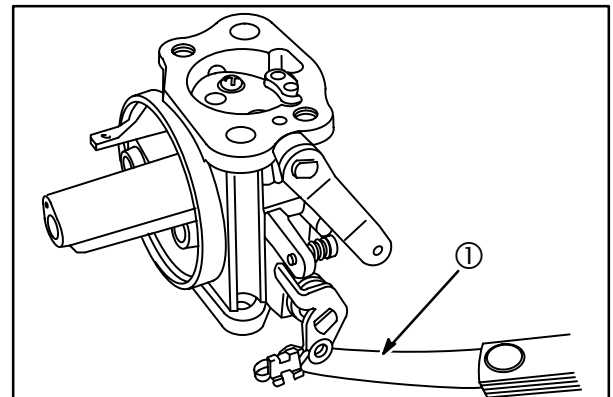

Fig. 41
1. Lay carburetor on flat surface. Use a feeler gauge (1) to check throttle and choke shaft clearance as shown in **Fig. 41.**